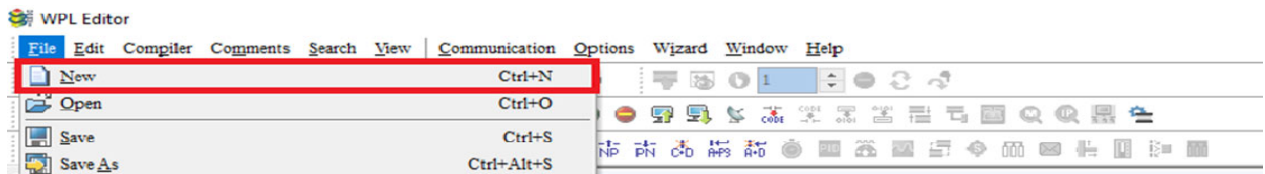

Figure 16-5
NOTE: You can also find "New file (N) (Ctrl+N)" in the "File (F)", as shown in figure 16-5 below.